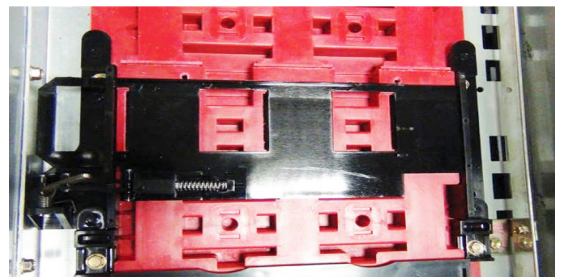

Figure 7. Removing existing shutter assembly.
Step 6: Remove the existing shutter assembly by loosening the four screws as shown in Figure 7.